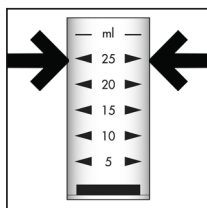

Figure 1
4. Fill the sample cup to the 25 mL with the sample to be tested, being careful to minimize turbulence (fig. 1).